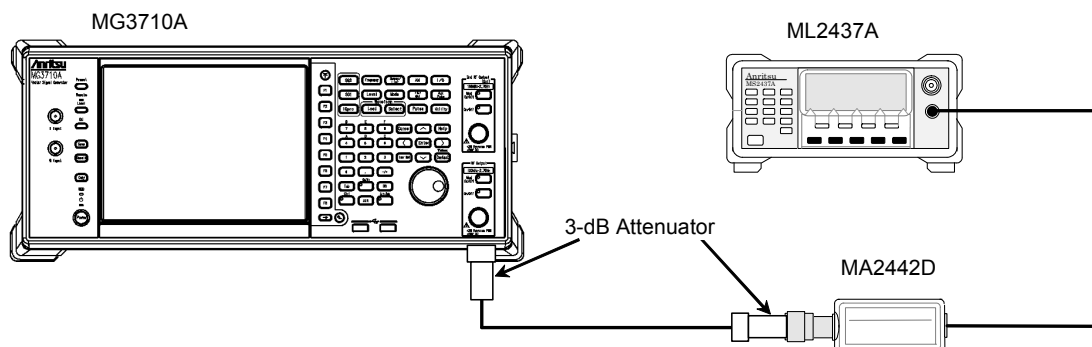

Figure 5.3.1-1 Signal Generator Calibration Setup (CW)
1. Setup the instruments as shown in Figure 5.3.1-1.
2. Output a CW 439.99 MHz signals from the Vector signal generator (SG) at a level of +6 dBm